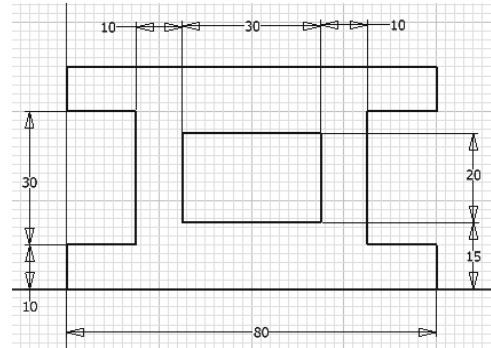

Figure 3-48 Fully constrained sketch for Tutorial 1
- Dimension the sketch by using the origin to fully constrain it, refer to Figure 3-48.
Figure 3-48 shows the fully constrained sketch for Tutorial 1.